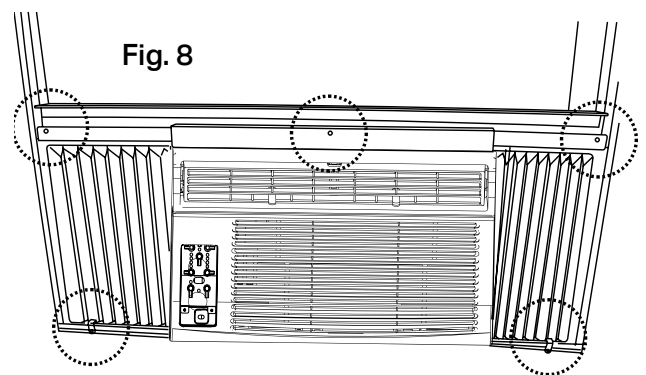

Fig. 8
- B. Drive $\frac{3}{4}$ " (19 mm) or $\frac{1}{2}$ " (12.7 mm) locking screws through frame holes into window sash **Fig. 8**.